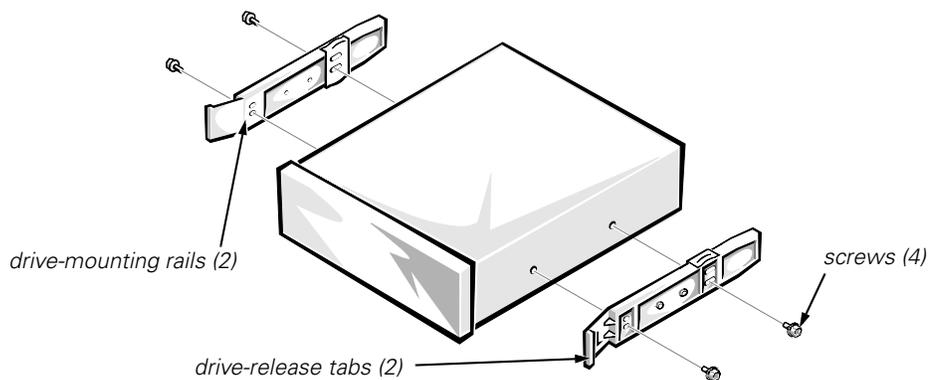

Figure 4-7. Drive-Mounting Rail Removal (Example)
- 3. Remove the drive-mounting rails from the drive (see Figure 4-7).**